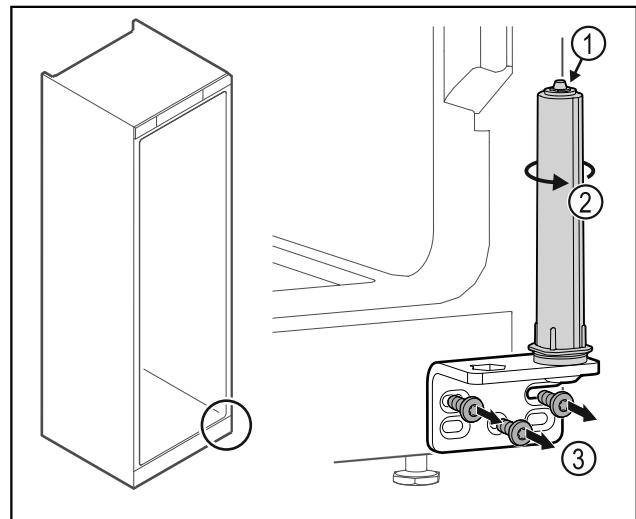

Fig. 50
- ▶ Do not disassemble the door closing system Fig. 50 (1).
- ▶ Turn the closing system Fig. 50 (2) until it clicks.
- ▶ Unscrew the hinge Fig. 50 (3).